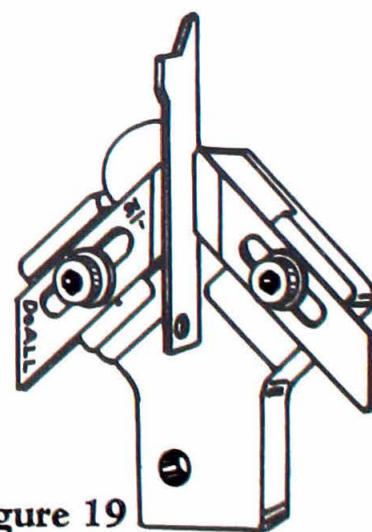

Figure 19
4. Place the second insert in its slot and set the gage edgewise between the two inserts, Fig. 19. Then bring the second insert in so that it rests against the thickness gage and tighten the screw securely. When the gage is removed the gap left will be the proper thickness for the saw blade.